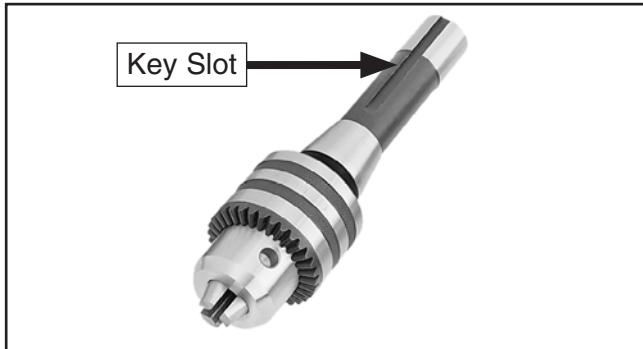

Figure 19. 3–16mm drill chuck joined with R-8 arbor.
The Model G0781 includes a 3–16mm drill chuck with an R-8 arbor (see **Figure 19**). The R-8 arbor is precision-ground, and features a tool slot for easy, secure alignment in the mill/drill spindle. The tapered R-8 arbor end joins securely with the drill chuck to support tooling from 3–16mm.
3. Align key slot (see **Figure 19**) with pin inside spindle, then insert tooling assembly into spindle until it contacts drawbar.